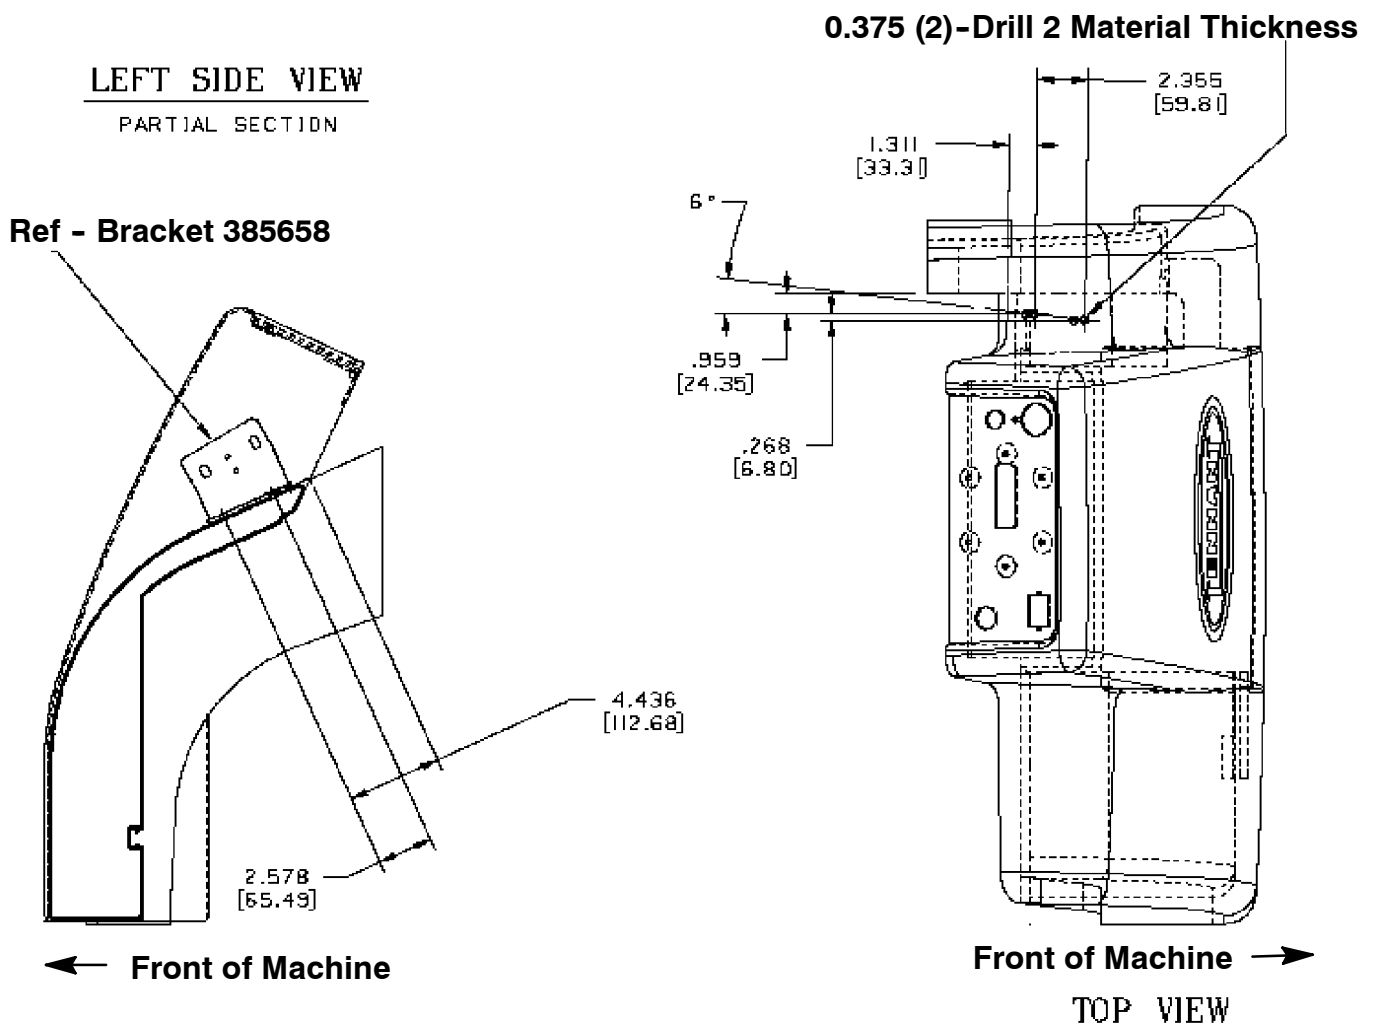

FIG. 4 - Power Wand Assembly Mounting Hole Dimensions
10. Drill two 0.375 holes thru two material thickness of the front shroud per dimensions. (Refer to FIG. 4)